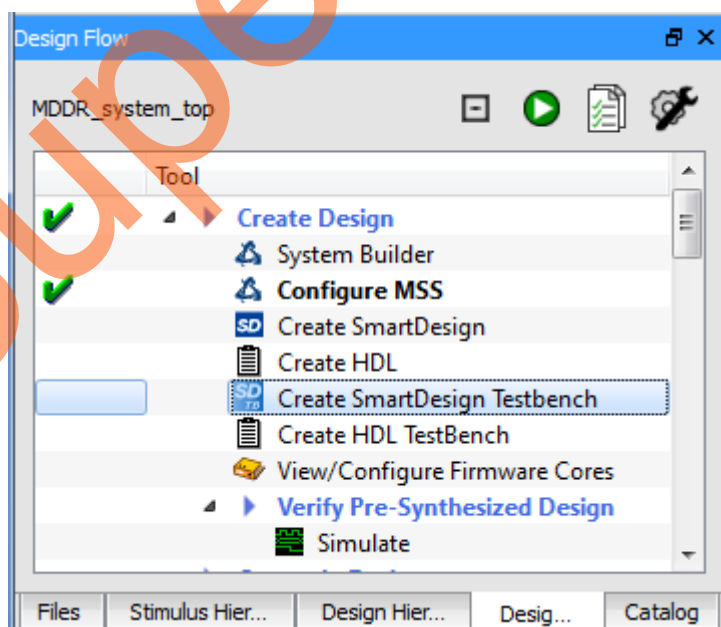

Figure 14. Opening SmartDesign Testbench
2. Double-click the **Create SmartDesign Testbench** in the Libero Design Flow window, as shown in Figure 14.